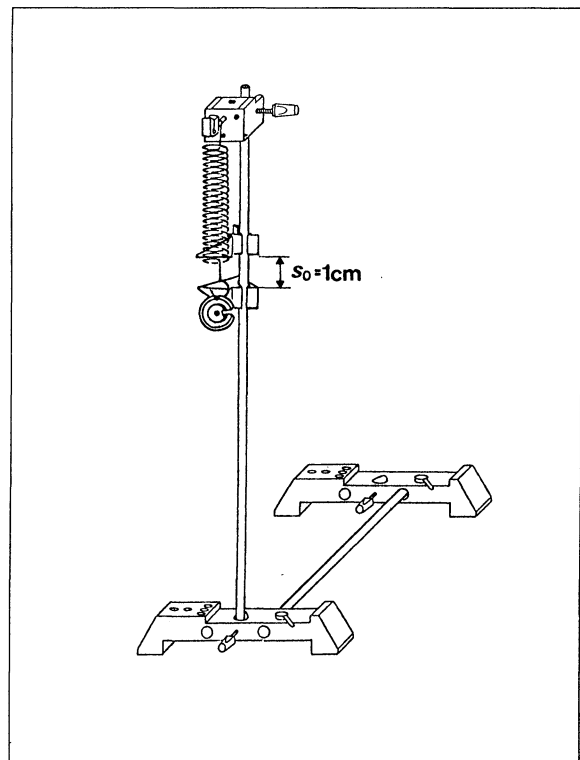

Fig. 1 Experimental setup, spring pendulum
2. Assemble the stand bases, stand rods and sleeve block as shown in fig. 1.